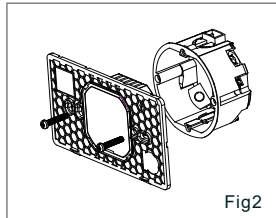

Fig2
Step 2: Make sure that the wires are without electricity, connect the thermostat with the wires according to the wiring diagram, and then fix the mounting plate on the cassette with(Fig2).